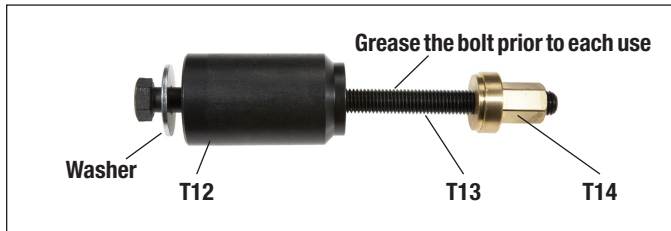

Figure 70 – Brass Bushing Removal Tool
5.6.12 Prepare to remove the brass bushing used in the long guide pin side. Assemble the long bolt (T13), washer, and sleeve (T12) as in Figures 70 and 71.